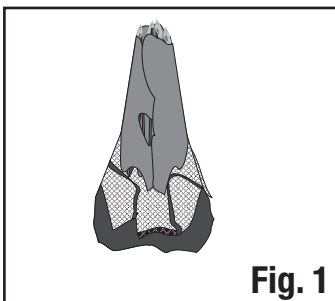
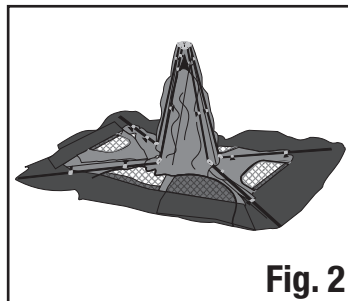

Fig. 1
Fig. 2
- Stand the tent upright with the hub assembly at the top. (Fig. 1) Unfold the arms of the tent downward until they lay flat on the ground. (Fig. 2)
- Collapse the tent by folding the arms upward until the tent stands upright with the hub assembly at the top. (Fig. 2 and 1)